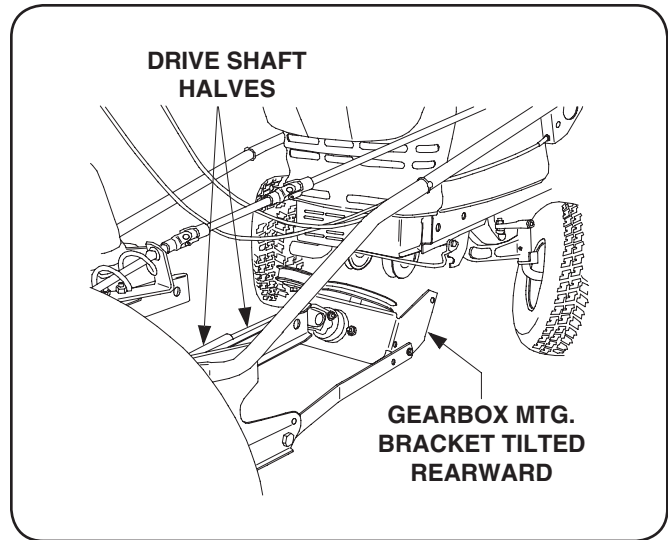

Figure 5-2
3. Units with 15" front tires ONLY. Using care to avoid separating the rear half of the drive shaft from the front half, tilt the gearbox mounting bracket rearward. See Figure 5-2.